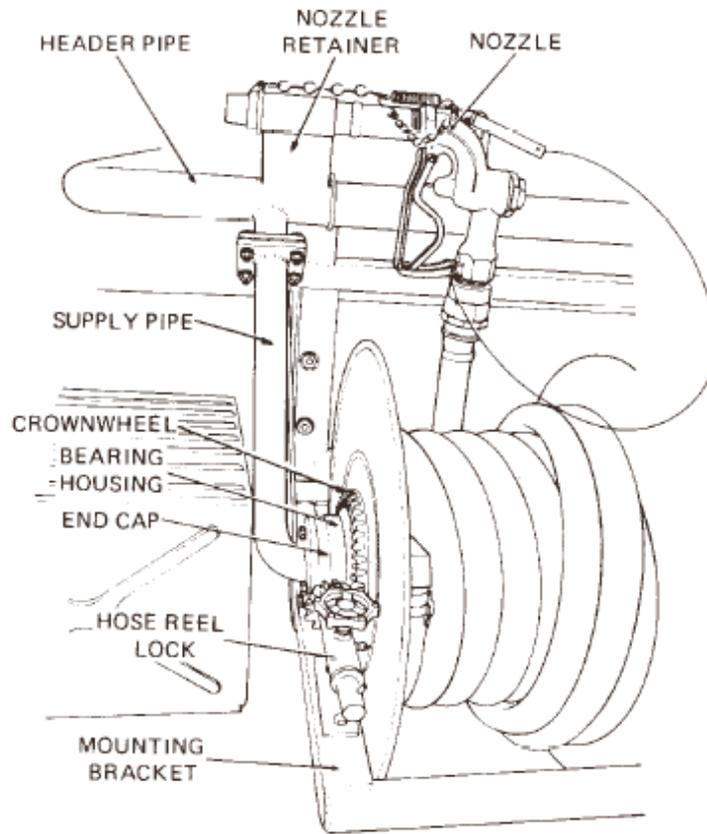

Figure 14 Hose Reel
- a. Slacken the hose reel lock, remove the nozzle from its retainer (Figure 14) and unroll the hose from the reel.
- a. Remove the dispensing hose nozzle from the nozzle retainer on the header pipe (Figure 14).